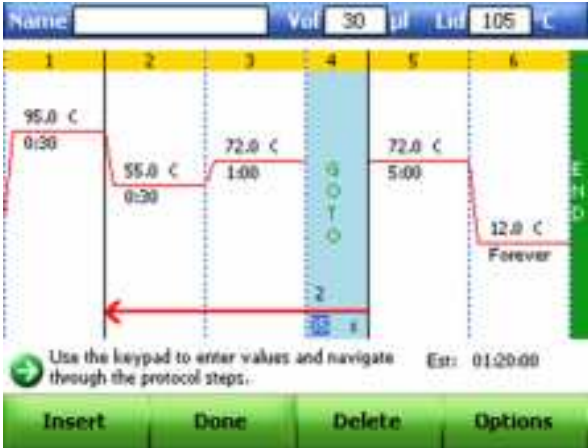

Figure 48. The GOTO loops changed from 34x to 35x.
- 3. Change the GOTO loop to adjust the number of repeated sets of steps. Figure 48 shows the number of GOTO loops being changed from 34x to 35x.